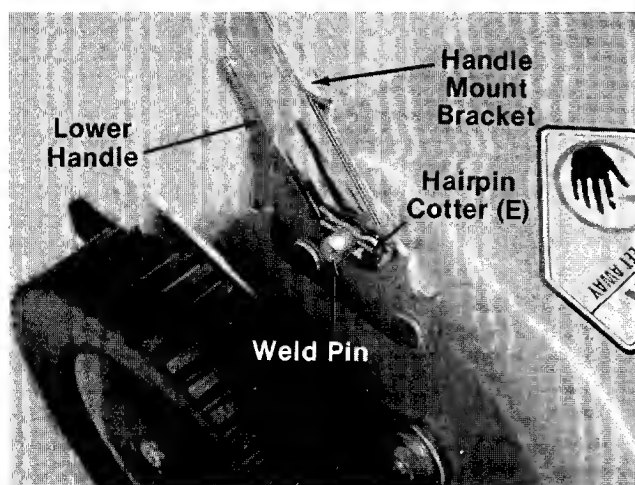

FIGURE 2.
3. Place lower handle in position over weld pins in handle mount brackets on deck. Secure by placing two hairpin cotters (E) in inner hole on weld pins. See figure 2.